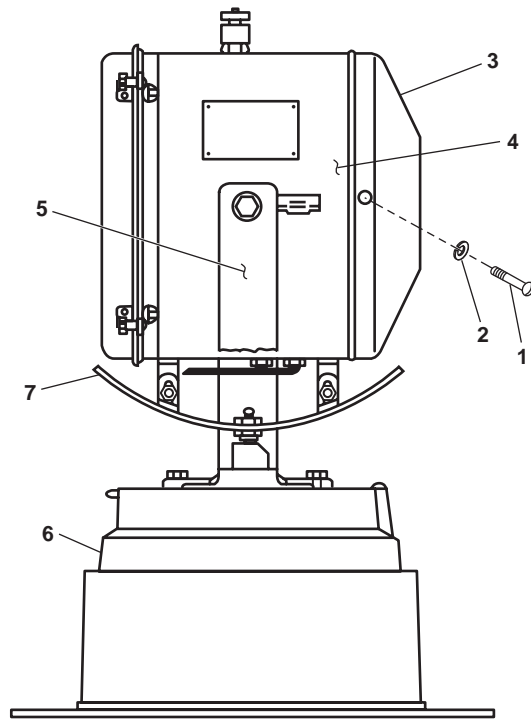

Figure 1. 500 Watt Xenon Searchlight
1. Remove the eight screws (figure 1, item 1) and eight lockwashers (figure 1, item 2) from the rear cover (figure 1, item 3) of the drum assembly (figure 1, item 4). Discard the lockwashers.
2. Remove the rear cover (figure 1, item 3) from the drum assembly (figure 1, item 4).
11. Install the rear cover (figure 1, item 3) on the drum assembly (figure 1, item 4).
12. Install the eight screws (figure 1, item 1) and eight lockwashers (figure 1, item 2) in the rear cover (figure 1, item 3) of the drum assembly (figure 1, item 4).
1. Remove the drum assembly (figure 1, item 4) from the arm assembly (figure 1, item 5) (WP 0235 00).
2. Remove the arm assembly (figure 1, item 5) from the upper base assembly (figure 1, item 6) (WP 0235 00).